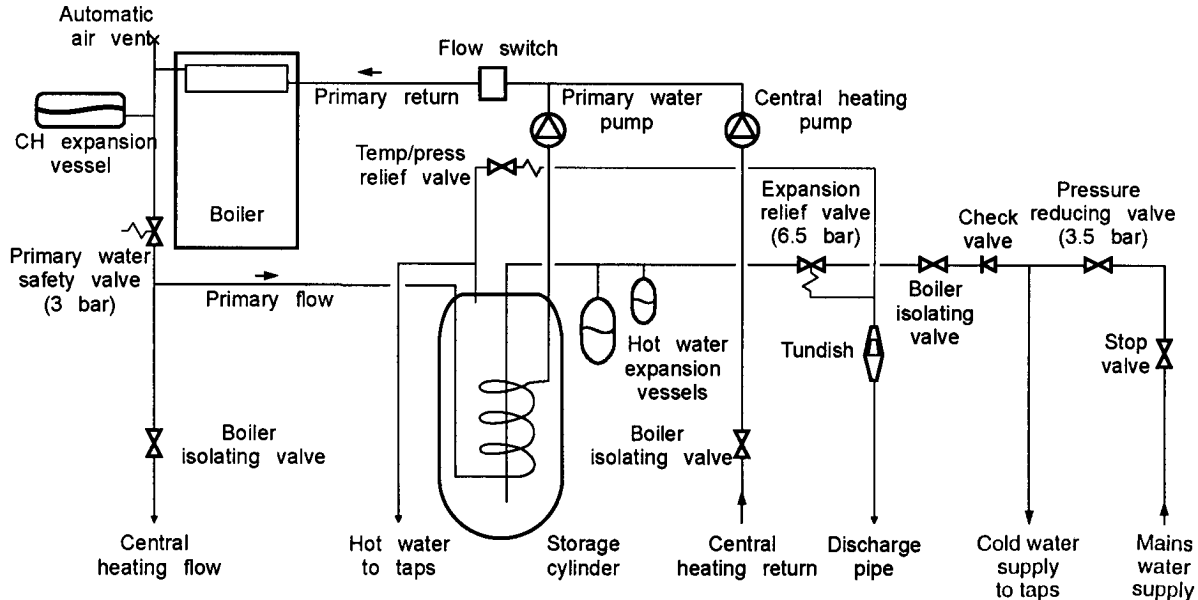

Fig. 6
To comply with the Building Regulations the pressure reducing valve, check valve and expansion relief valve, supplied in the water fittings pack, must be fitted before the mains water connection point of the boiler and there must be no isolating valves between these and the boiler. Refer to Fig. 6.
- 3 Connect the pressure reducing valve and expansion relief valve in the mains water supply to the boiler as described in section 2.13 and shown in Fig. 6. There must be no valves between the boiler and the expansion relief valve.